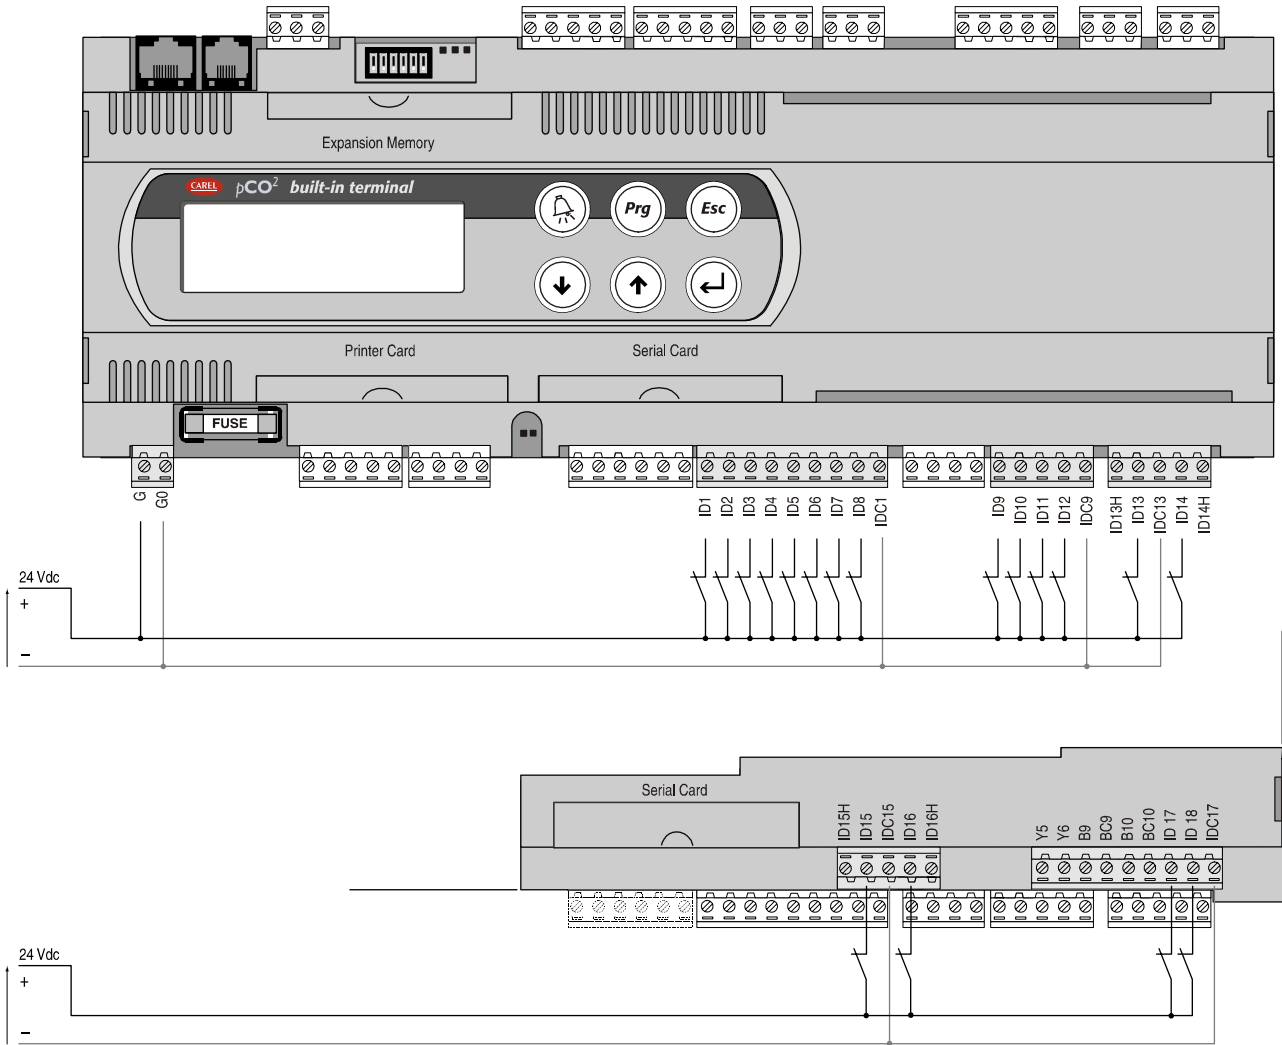

Fig. 4.5.2.1
**IMPORTANT WARNINGS:** to maintain the optical isolation of the digital inputs a separate power supply must be used just for the digital inputs; Figs. 4.5.2.1 and .2 show the versions: MEDIUM (in full) and LARGE (limited to the terminals located more internally, on the board).
The connection diagrams in Figs. 4.5.2.1 and .2, while being the more common and the more convenient, do not exclude the possibility of powering the digital inputs **independently from to the power supply to the pCO2**.